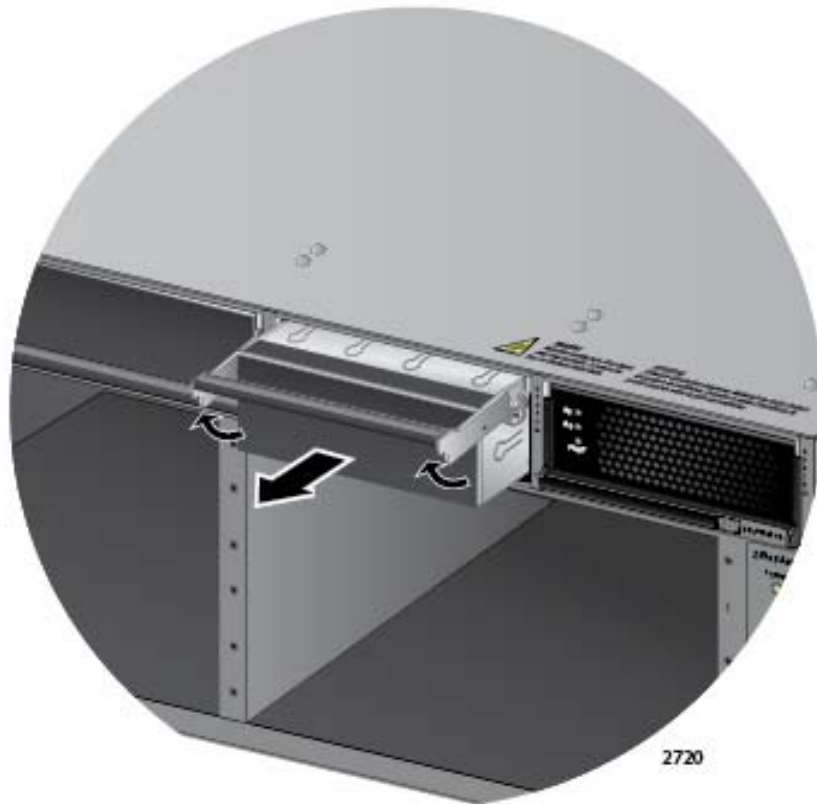

Figure 56. Removing the Blank Slot Cover from Power Supply Slot C
2. If the chassis already has a power supply in slot D, remove the blank power supply panel from slot C by lifting the blank panel handle and sliding it out of the slot, as shown in Figure 56 on page 116.